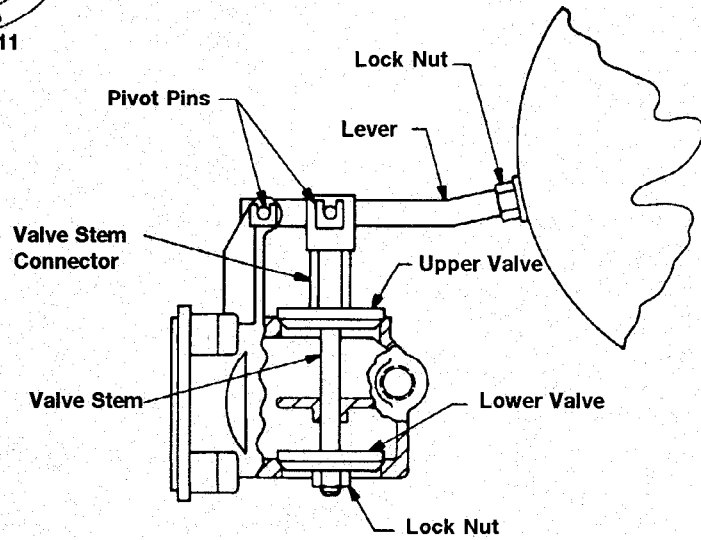

FIGURE 11. Integral Seat Assembly
- 3) Using a screwdriver, remove two of the four retaining clips from the pivot pins. The pivot pins and lever can now be removed. Detach cap extension from cap by loosening the four bolts. The cap extension must be detached from the cap in order to replace the valve assembly. Place cap extension in a vise with upper valve on top (See Figure 11).
IF YOU HAVE THE NEW STYLE TRAP (SEE FIGURE 11)